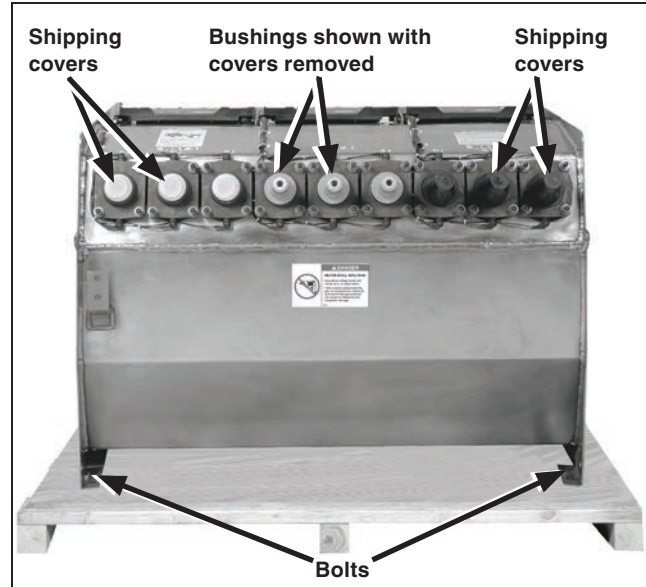

Figure 111. The switchgear is bolted to skid in four places for shipment.
- STEP 1.** Remove the switchgear from its crate and lift the gear, observing the precautions given under the “Handling” section on page 56. See Figure 111.